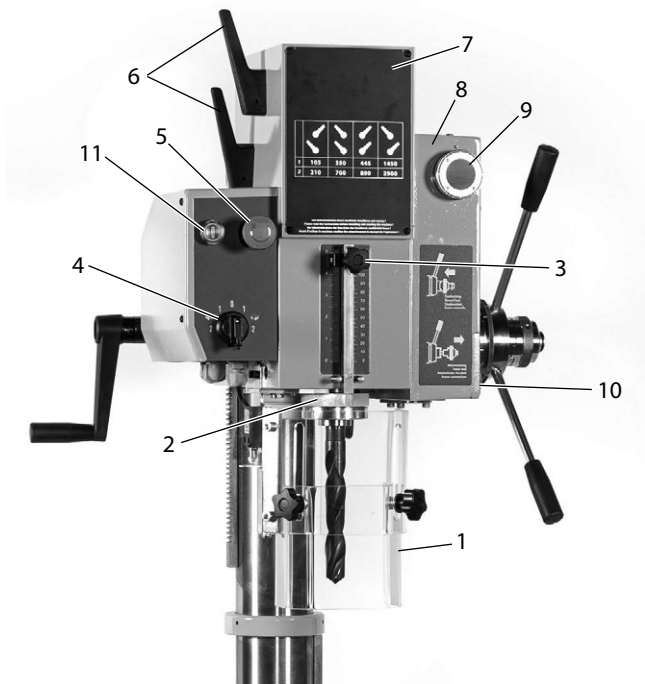

Figure 7 - Drill head.
See the location of the emergency stop push button (5) in figure 7. The emergency stop shall be used in case of emergency to stop the machine as fast as possible.